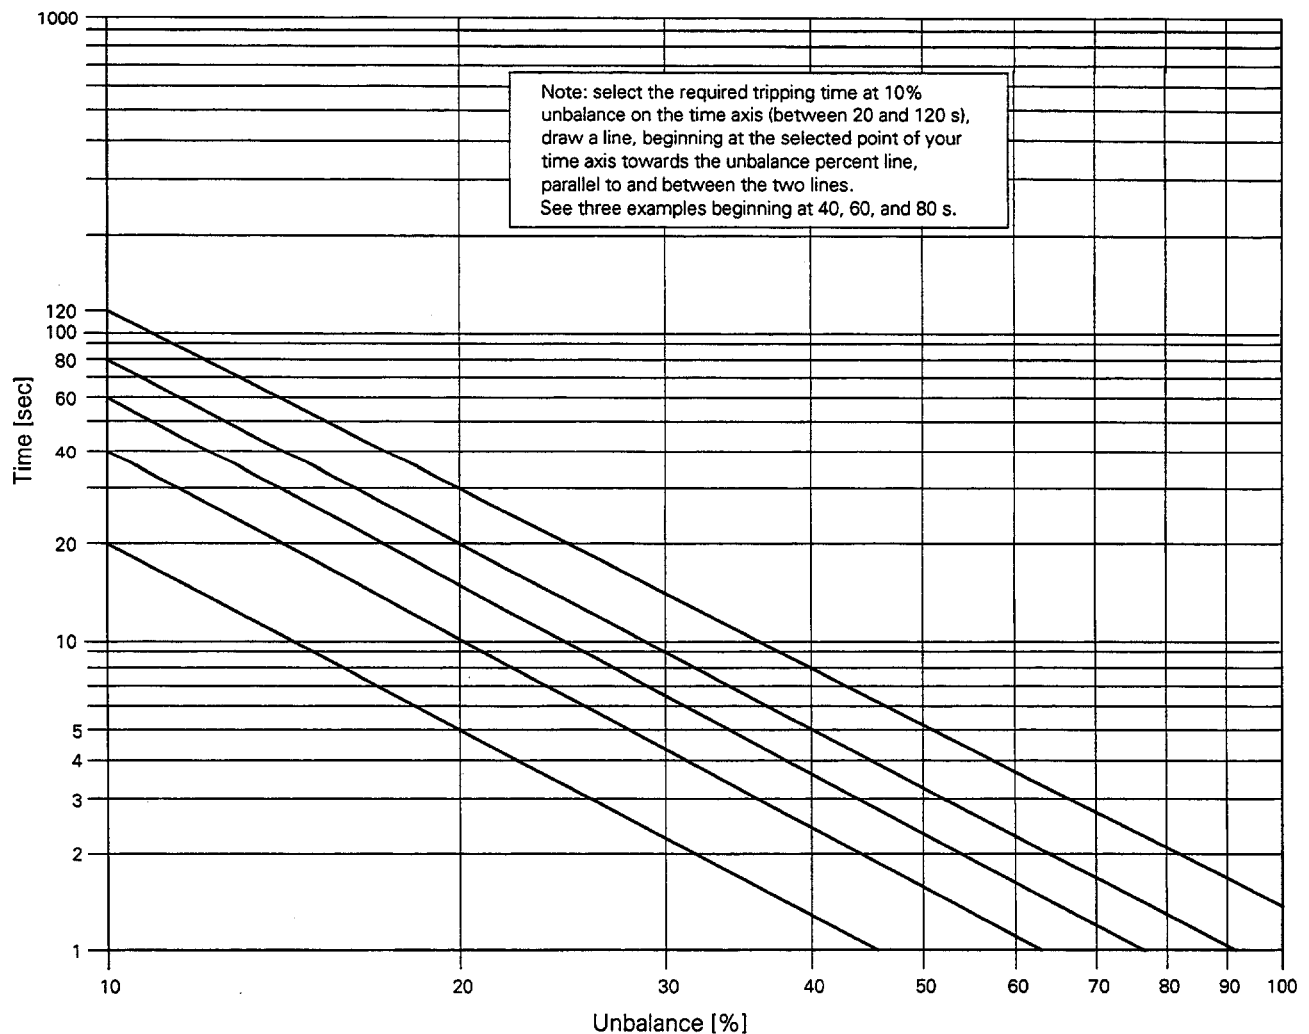

Figure 4-4. Characteristic curves for current unbalance protection.
- 23. U/B LVL 2 MAX T – This setting selects the characteristic curve from Figure 4-4 and represents the function’s operating time at an unbalance of 10%.